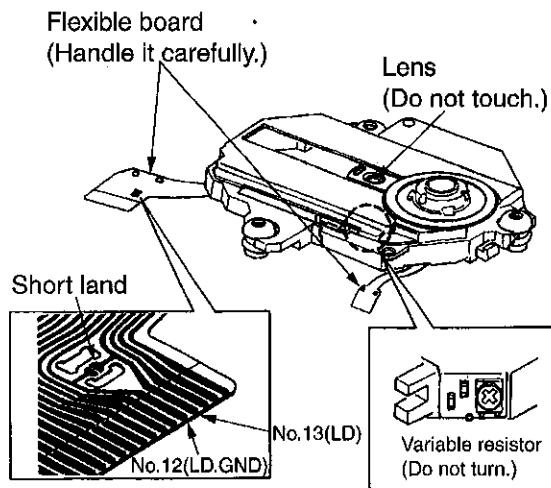

Fig.2
4. Do not turn the pre-set variable resistor (for adjustment of the laser power); it has been adjusted at the factory. (as shown in Fig. 2)